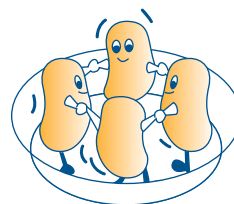

fig. 6
- 5) If you are cooking a number of portions of the same type of food (eg. boiled potatoes), arrange the portions **in a ring** around the outside of an oven-proof dish to ensure they cook evenly (see fig. 6).